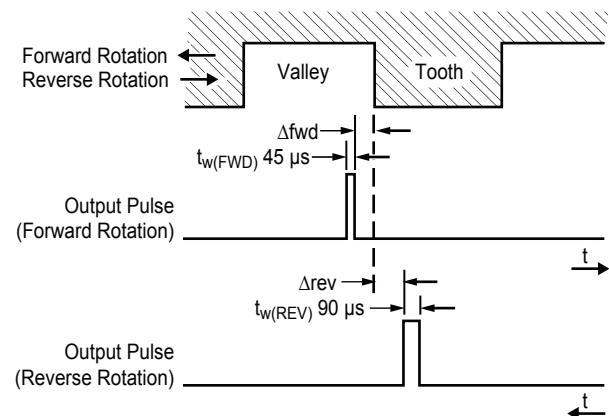

Figure 2. Output pulse timing
**Timing** As shown in figure 2, the pulse appears at the output slightly before the sensed magnetic edge traverses the branded face. For targets in forward rotation, this shift,  $\Delta_{fwd}$ , results in the pulse corresponding to the valley with the sensed mechanical edge, and for targets in reverse rotation, the shift,  $\Delta_{rev}$ , results in the pulse corresponding to the tooth with the sensed edge. The sensed mechanical edge that stimulates output pulses is kept the same for both forward and reverse rotation by using only channel 1 for switching.
| 4        | December 10, 2013 | Update $t_{w(x)}$ , figure 2, terminal list table |